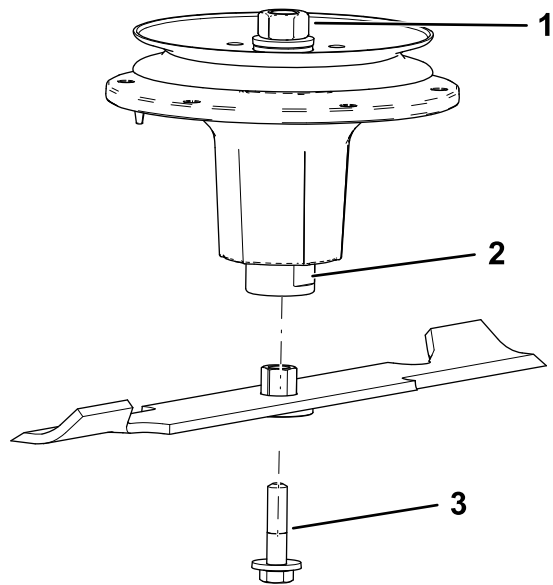

Figure 79
2. Install the bushing/blade assembly into the spindle shaft (Figure 79).